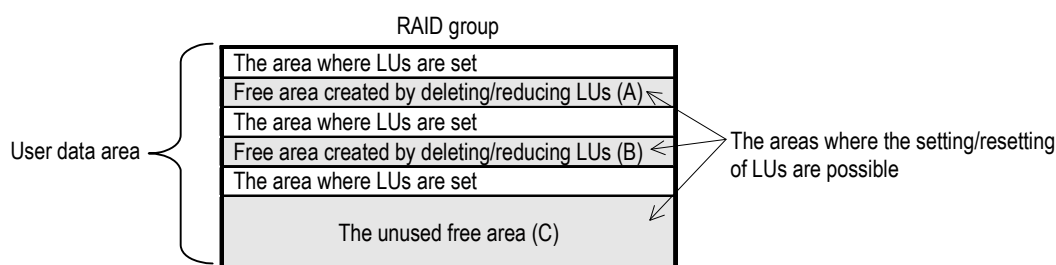

Figure 3.3.1 The Areas of LUs
The areas of LUs are shown in Figure 3.3.1.
When explaining it with Figure 3.3.1 as an example, you can create LUs up to the capacity totaling the free areas (A), (B) and (C). Internally, create LUs of the capacity necessary for each free area, and unify them.
- When “Free area created by deleting/reducing LUs” and “unused free area” are consecutive on the address, those free areas are merged, and become one “unused free area”. Although LUs other than the LUs adjacent to “unused free area” shown in Figure 3.3.1 are deleted, the capacity of “unused free area” does not increase.
- If the LUs created between the user data areas are deleted/reducing, the areas where LUs are deleted ((A) and (B)) are made. LUs can be created again in each divided free area of (A) and (B) within the capacity range of each free area.
- You can expand LUs without being conscious of continuation/discontinuity of free areas. When explaining it with Figure 3.3.1 as an example, you can create LUs up to the capacity totaling the free areas (A), (B) and (C). Internally, create LUs of the capacity necessary for each free area, and unify them to the target LU. The free areas are used as needed in order from the free area of the small LBA (Logical Block Address) in default. Moreover, the unused maximum LUN is automatically assigned to the LU newly created in each free area, and they are unified to the target LU to make one LU.
- When the “free area created by deleting/reducing LUs” and “unused free area” are consecutive on the address, those free areas are merged and become one “unused free area”. Although LUs other than the LU adjacent to the “unused free area” shown in Figure 3.3.1 are reduced, the capacity of “unused free area” does not increase.
- If the LUs created between the user data areas are reduced, the areas (A) and (B), where the LUs are reduced, are made. You can create the LUs again in each divided free area of (A) and (B) within the capacity range of each free area.